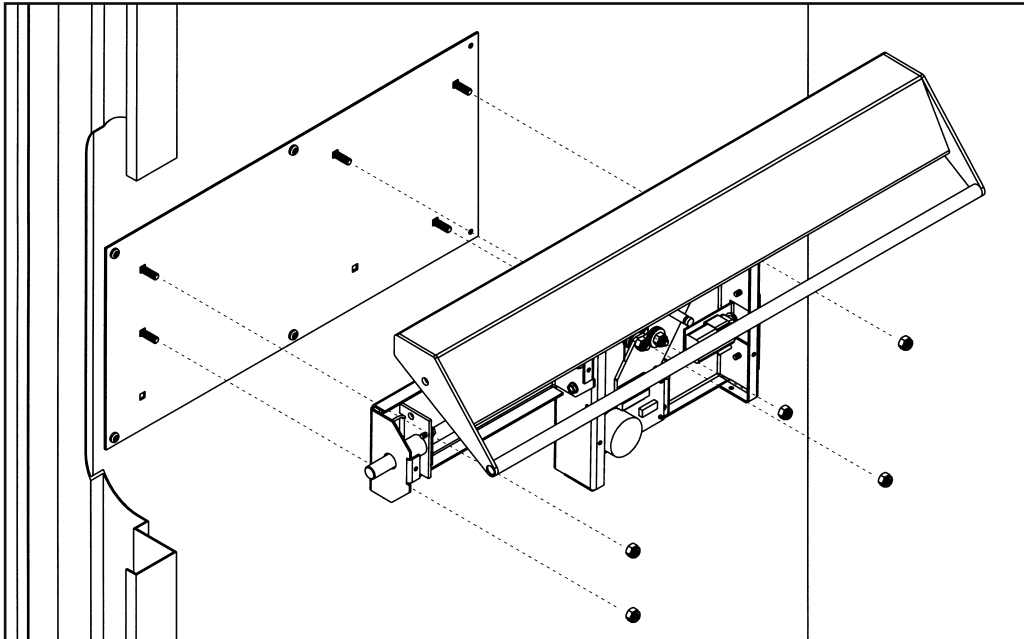

FIGURE 4 - HOLLOW METAL INSTALLATION SHOWN
6. Mount the Sur-Lock to the inside surface of the door. (See Figure 4)